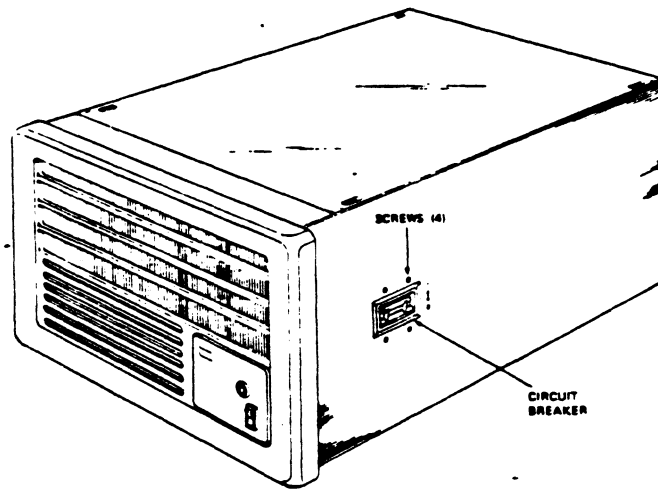

FIGURE 5-24 BOX CIRCUIT BREAKER REMOVAL
3. Remove the rear 4 bulkhead sections marked A1 through A4, each section has two flathead screws. See Figure 5-24.